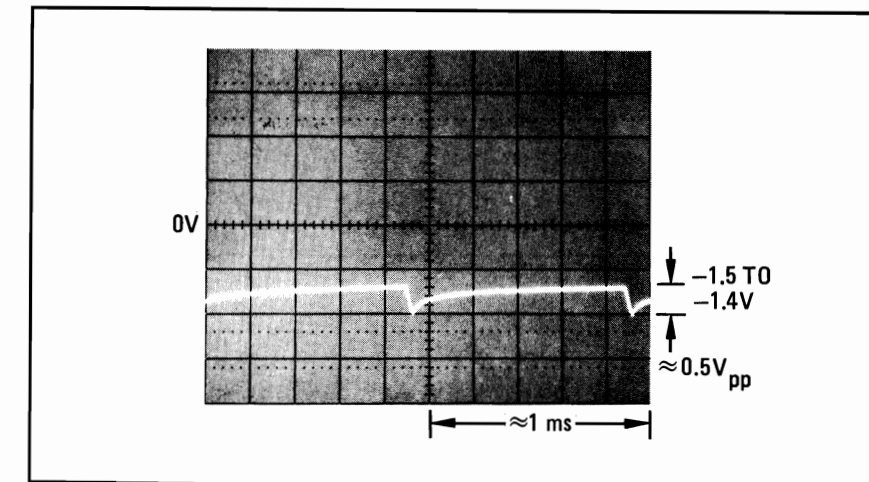

Figure 8-81. Oscillator Leveling Check Waveform E
10. Connect the oscilloscope to A5TP11 (INT ERROR). The waveform should be as shown in Figure 8-81.